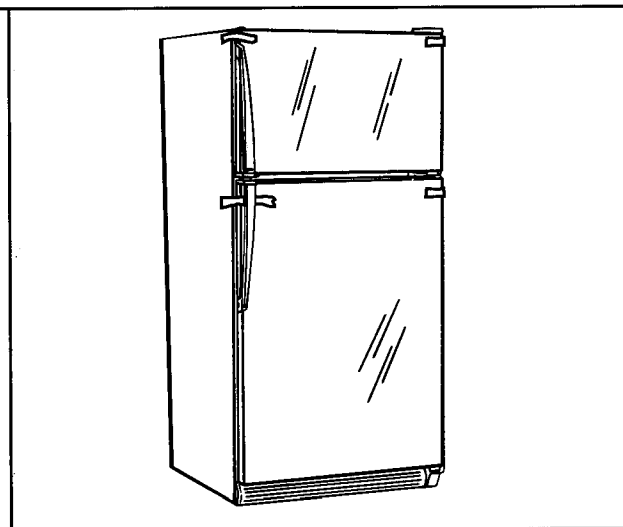

Figure 9
**⚠ CAUTION:** To Avoid Personal Injury Or Property Damage from falling doors during removal and installation of doors: Temporarily tape both doors shut with strapping tape on top right and left corners of each door. See Figure 9.